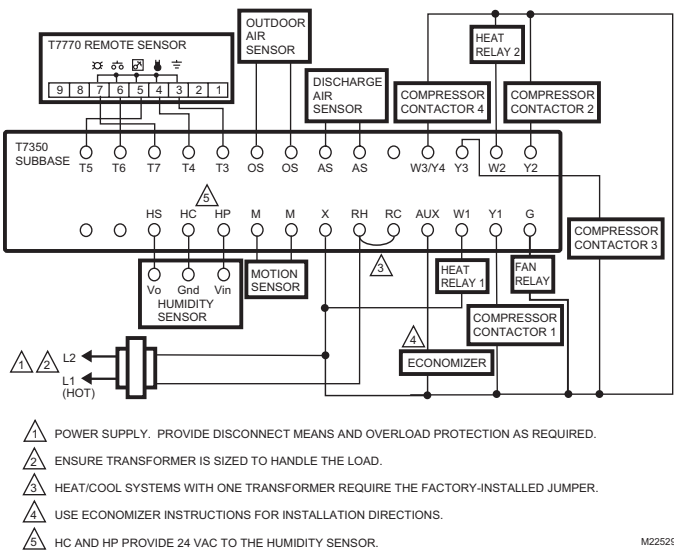

Fig. 4. Humidity Sensor (0-10 Vdc output) wiring with T7350 (use with RH/Temperature combination T7350 units only).
3. Wire the device. (See Fig. 4 through 3.)